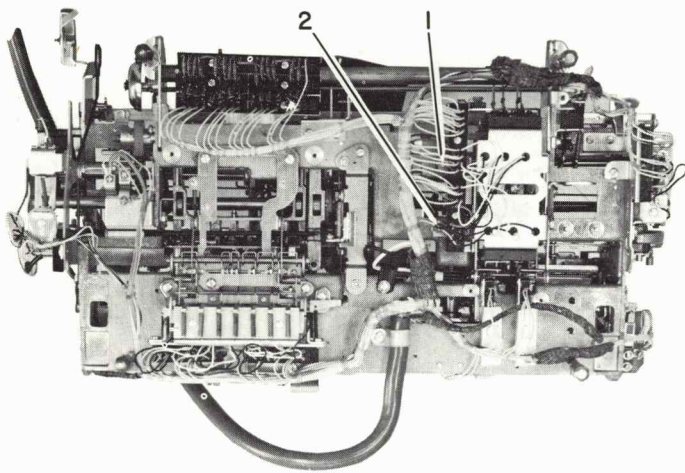

FIGURE 44. Operational Magnet Assembly Removal
6. Remove the mounting screw (#1, Figure 44).
7. Remove the nut (#2, Figure 44) and carefully remove the magnet assembly.